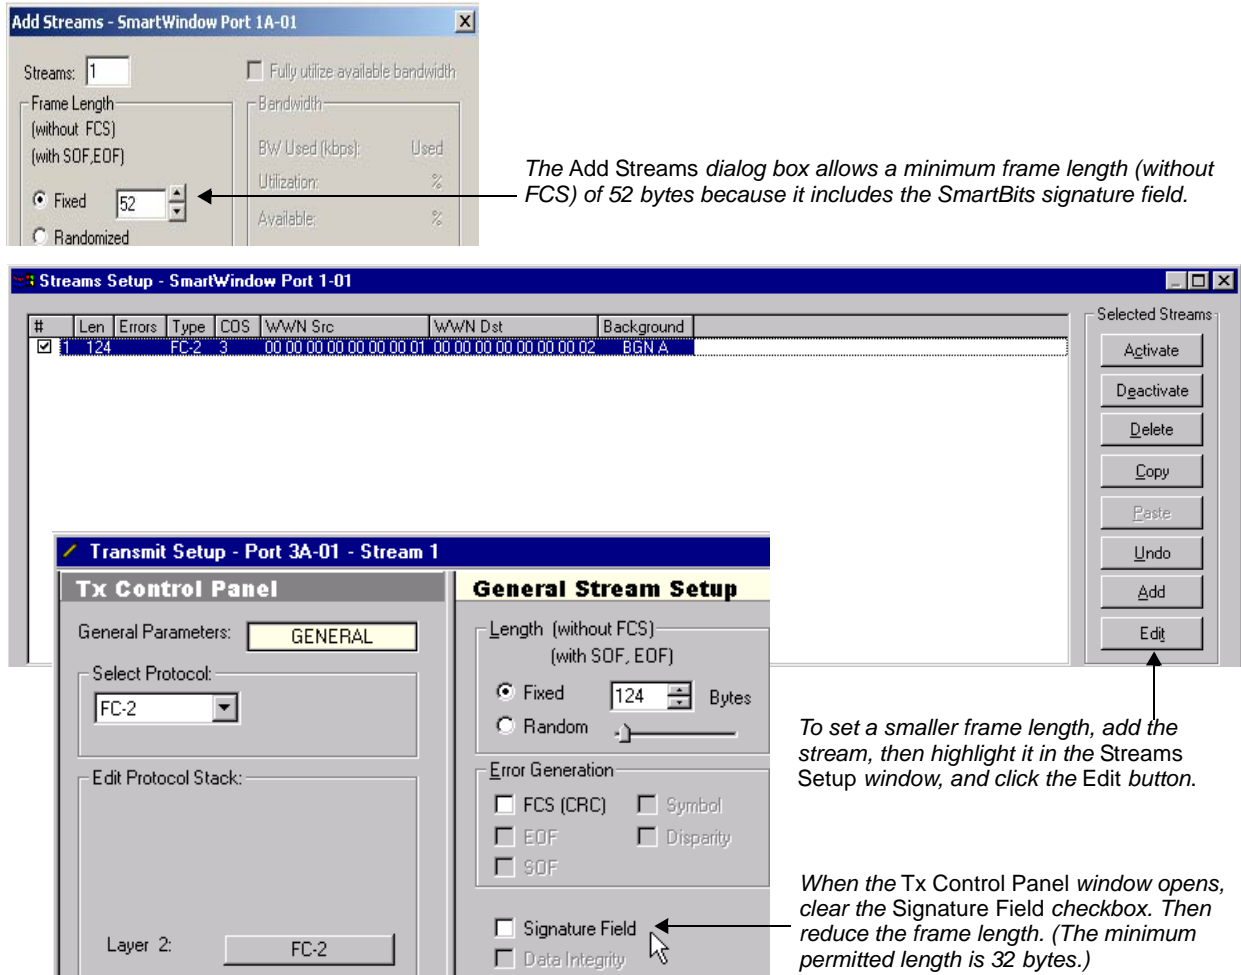

Figure 13-14. Reducing Frame Size
- 5 Adjust the frame size downward, as required. (Minimum is 32 bytes.) See *Figure 13-14 on page 648*.)